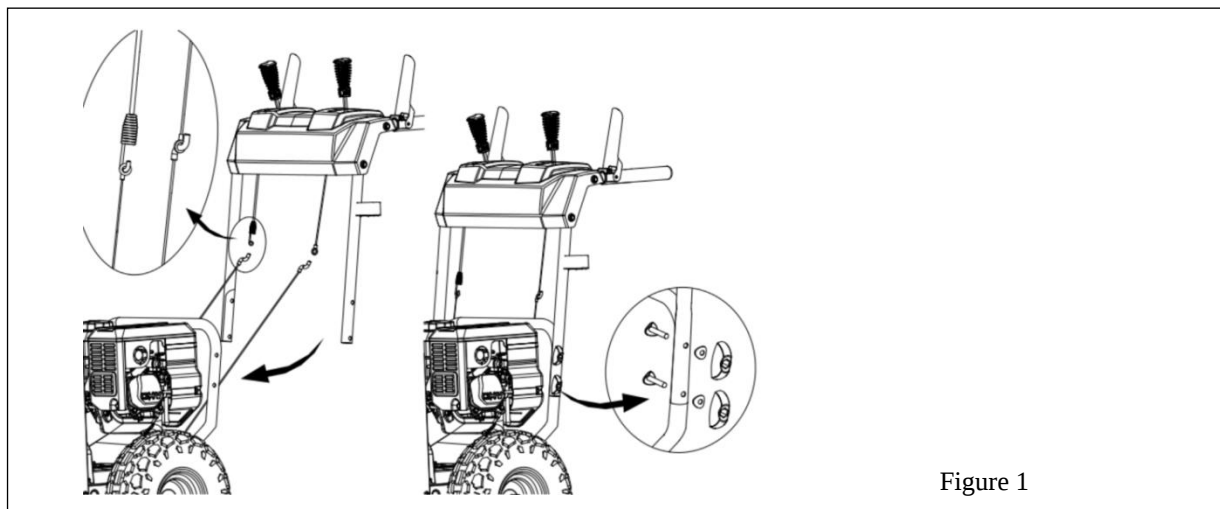

Figure 1
3. When attaching Assembly Hardware, make sure ALL cables are underneath the Frame (Upper & Lower) Handles after installation as indicated in Figure1. **VERY IMPORTANT!!!*****
5. Verify that the connection for the Upper & Lower Drive/Auger Cables is accurate. (See Figure 1)